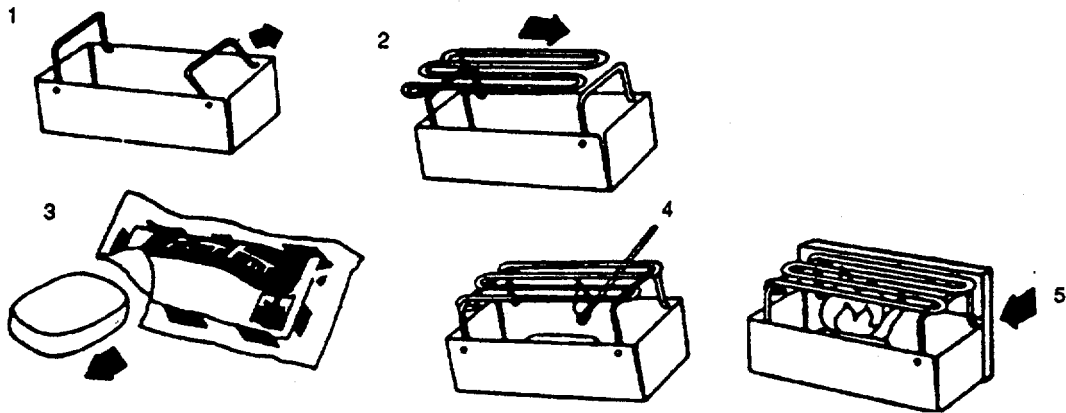

Figure 2-19. Stove, Pocket
- l. Stove, Pocket. The pocket stove (See Figure 2-19) comes with 6 packets of trioxane fuel tablets. By using the canteen cup with the pocket stove, water can be heated and rations cooked. The trioxane fuel bars are a limited source of heat.
Use the following procedures (see Figure 2-19):